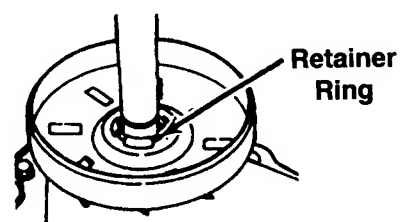

Fig. 67
4. Remove the retainer ring and lift the clutch hub up and off the spin pinion. (Fig. 67)